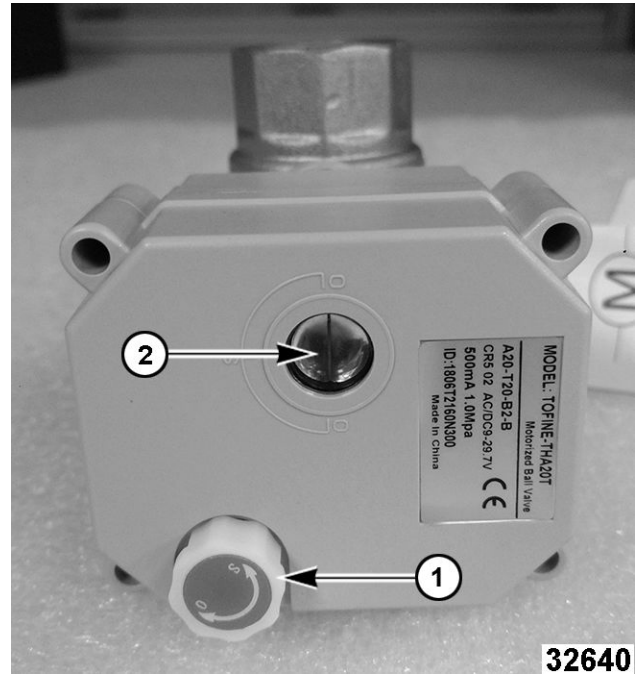

Fig. 65
- B. Pull knob (Fig. 65) out and turn while watching indicator window. Verify until red line inside indicator window (2, Fig. 65) is vertical (open position) with valve body.